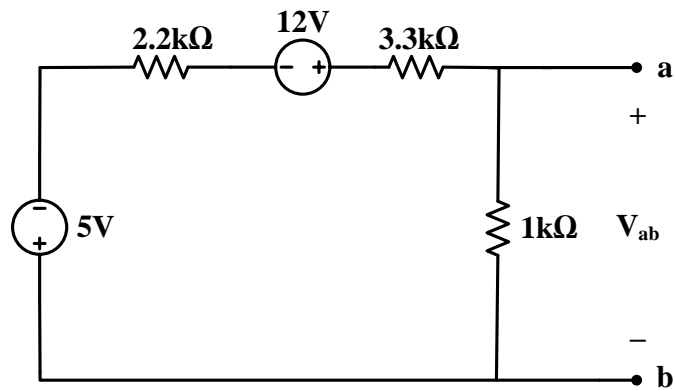

Figure 3
3. Find V_{ab} and $I_{1k\Omega}$ given in Fig.3 by using the superposition principle.
3. Build the circuit in Fig.3.